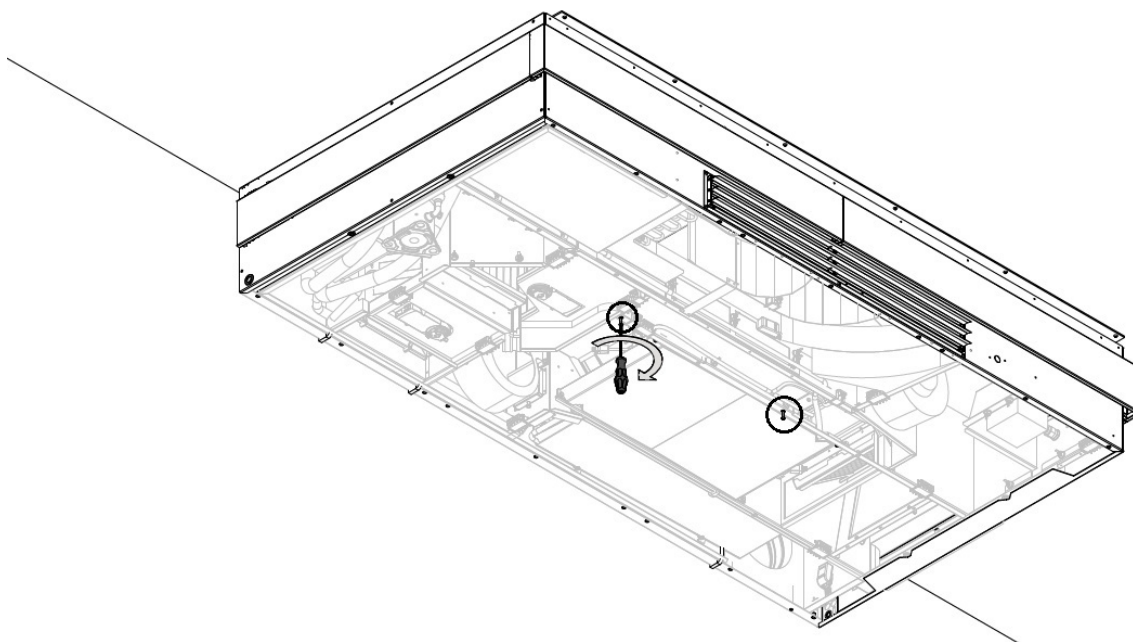
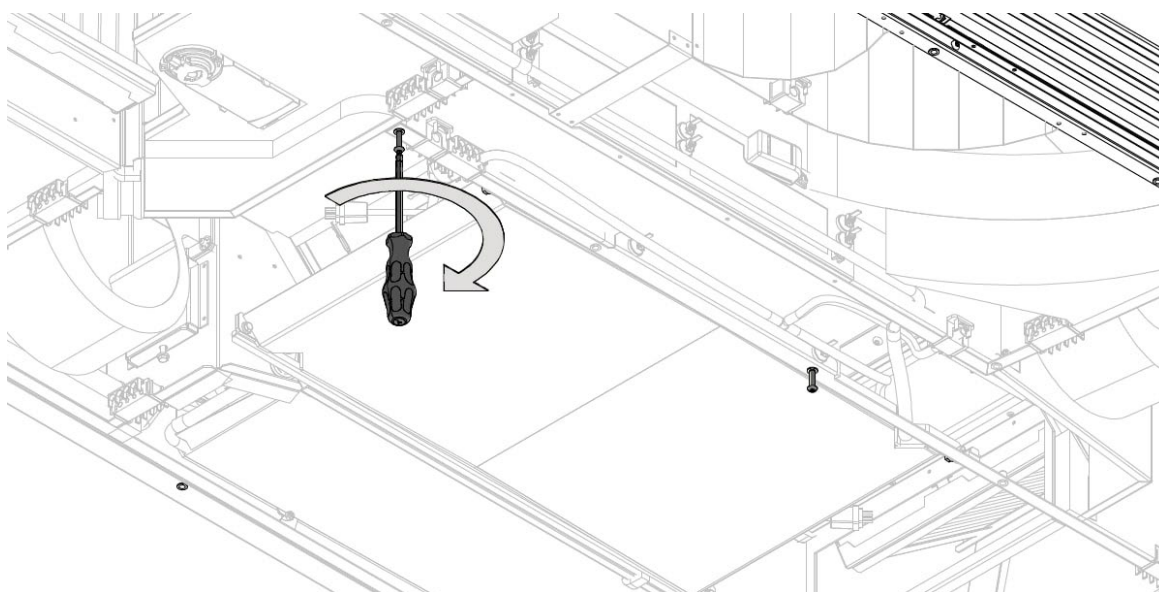

Figure 29: Screw two long bolts onto the middle frame
Figure 30: Detailed view of the middle frame with bolts mounted
1. Screw two of the long bolts into the middle frame, see Figure 29 and Figure 30 below. Note that you must leave at least 10 mm. between the frame and the bolt head for the keyhole on the steel plate to function correctly.